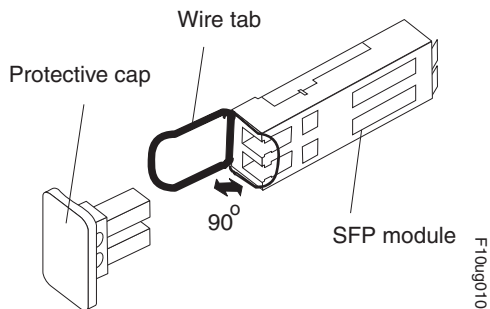

Figure 105. Unlocking the SFP module latch - wire variety
- For SFP modules that contain wire tabs, unlock the SFP module latch by pulling the wire latch outward 90°, as shown in Figure 105 on page 146.